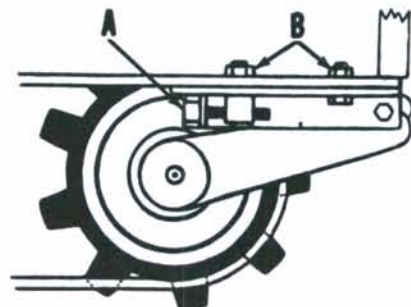

Fig. 5—To adjust track tension, loosen the two clamp bolts (B) and turn adjusting screw (A). Both sides must be adjusted alike. Refer to text.
To adjust track tension on early models, refer to Fig. 5. Loosen clamp bolts (B) and turn adjusting screw (A), making the same adjustment on both sides of single track models or at all four adjusting points on Alpine.